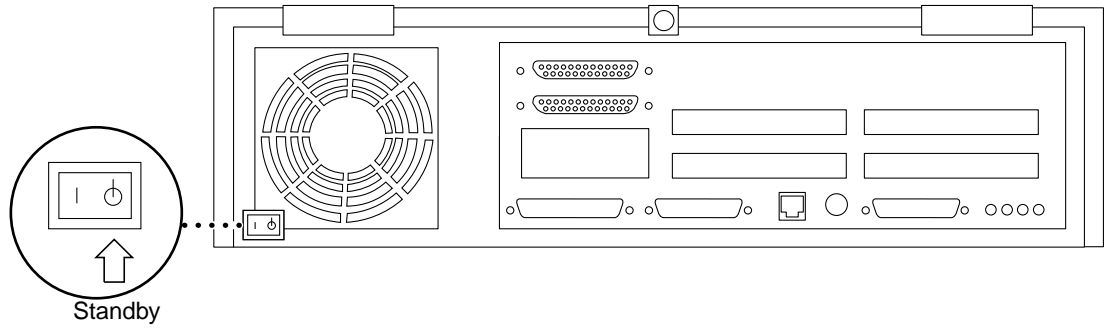

Figure 2-1 Standby Switch
- 5. Remove DC power from the system by pressing the Standby side of the power switch on the back panel (Figure 2-1).**